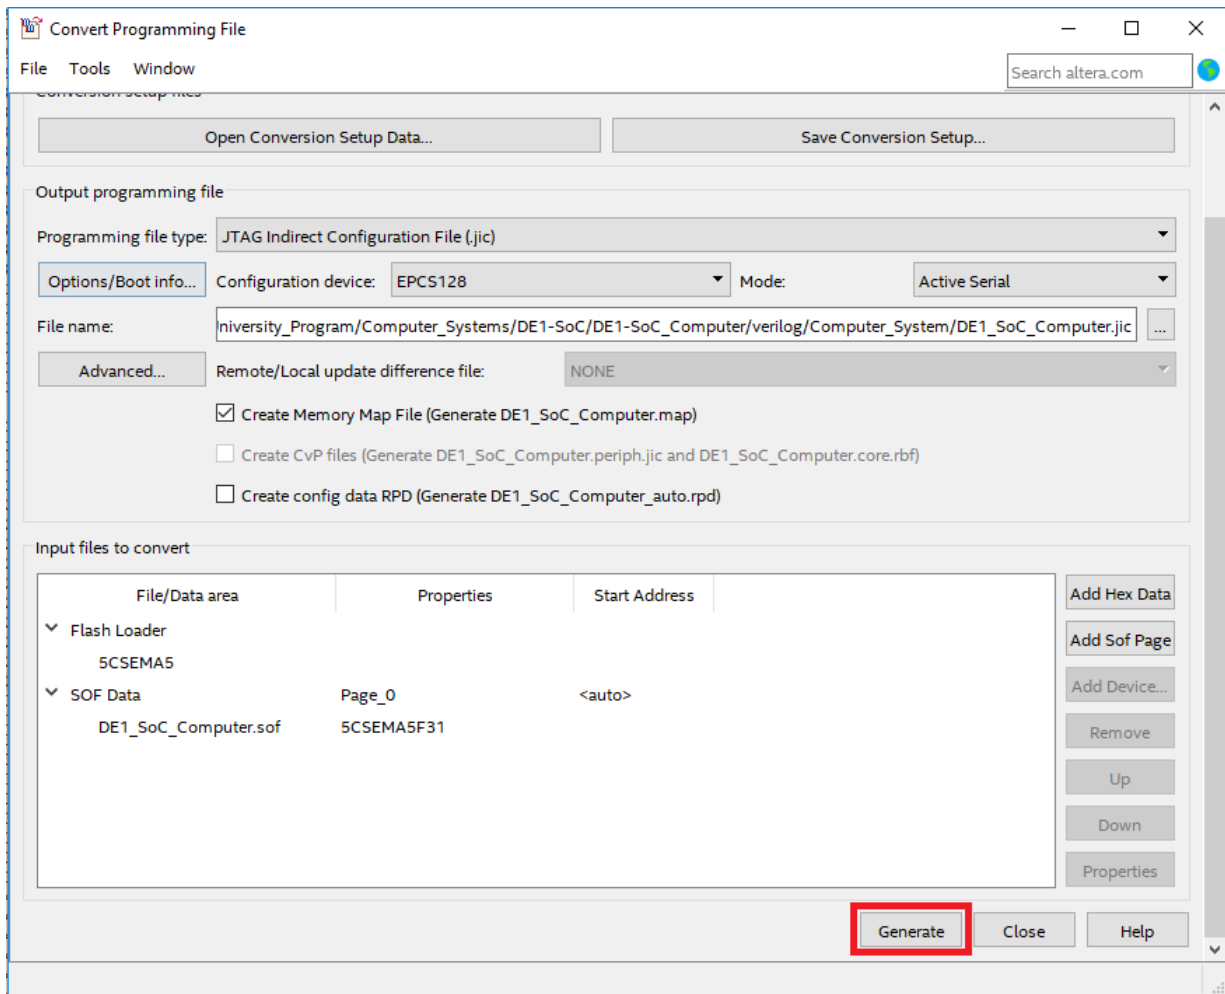

Figure 7: Convert SOF to JIC - Step 7
7. Verify that the settings match those shown in Figure 7, and click 'Generate'. After the .jic file is successfully generated, close the 'Convert Programming File' window.